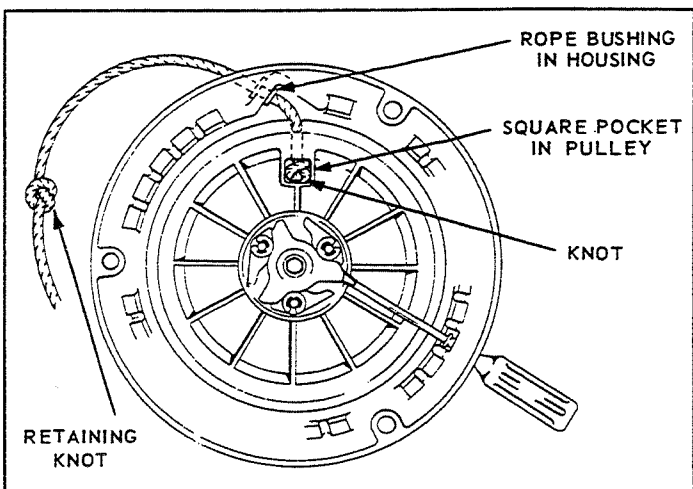

FIG. 5
into the *square pocket* in the pulley, see Fig. 5. Allow the rope to recoil into the pulley about 2 feet, then tie a *retaining knot* in the rope to prevent it from being completely rewound into the pulley. Install the 'T' handle (128) on the rope, then the handle insert (129). Tie a knot at end of rope and tuck it into the handle insert, then assemble insert into the rubber 'T' handle. Remove the retaining knot and allow the rope to recoil completely.